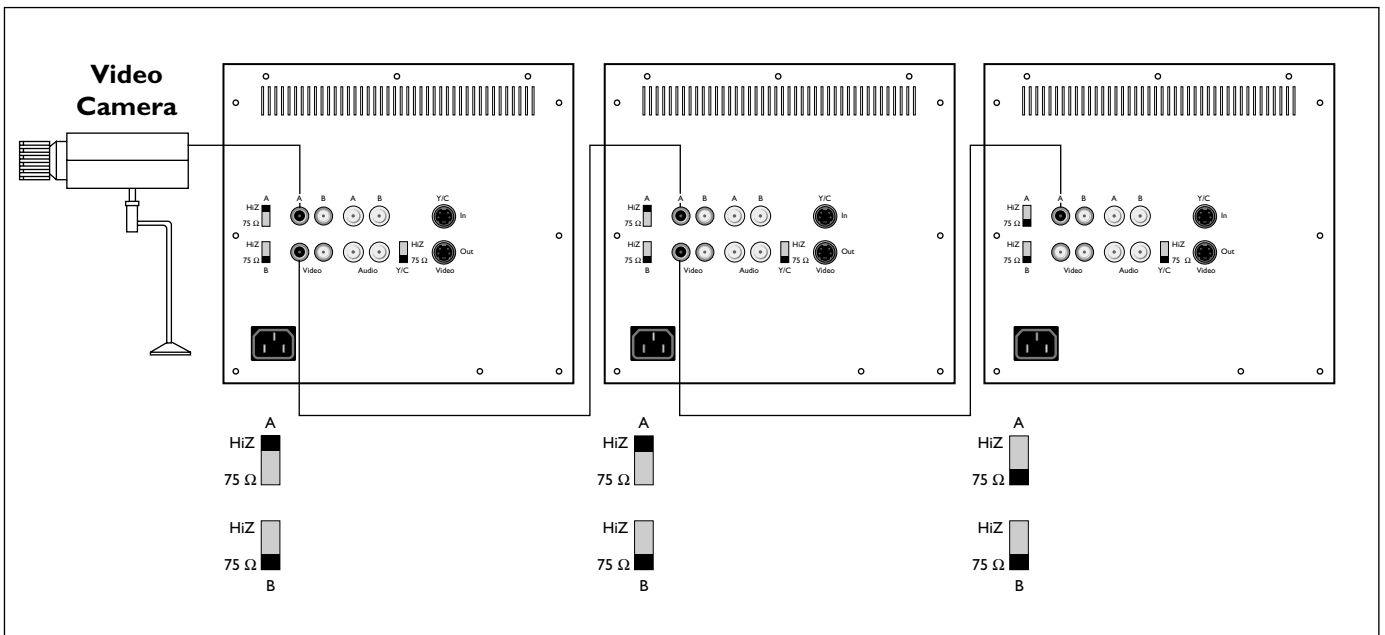

Fig 3b Connecting Multiple Monitors
**CAUTION:** The last monitor or device in the chain which is receiving the video signal must be terminated, i.e., the impedance switch set to the 75 Ω position (Fig 3b).